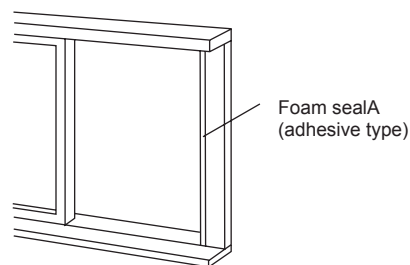

FIG.12
- 1 Cut the foam seal (adhesive type) to the proper length and attach it to the window frame. See Fig. 12.